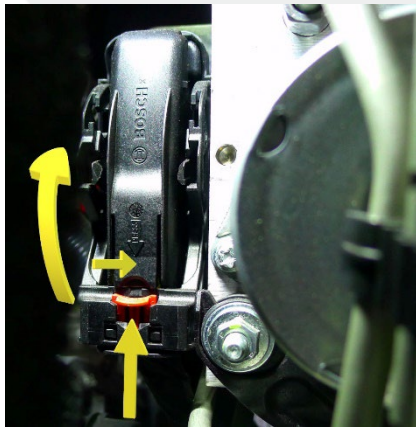
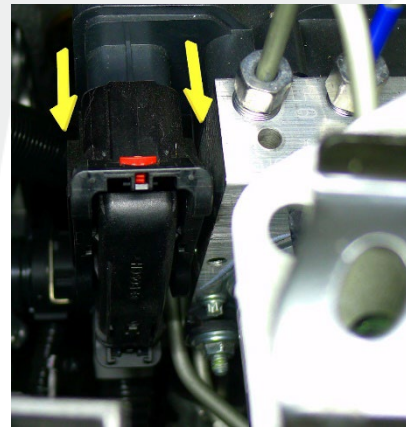

Figure 5
Figure 6
8. Slide the red locking tab, raise the lever (Figure 5), and then remove connector X151 from the HCU (Figure 6).